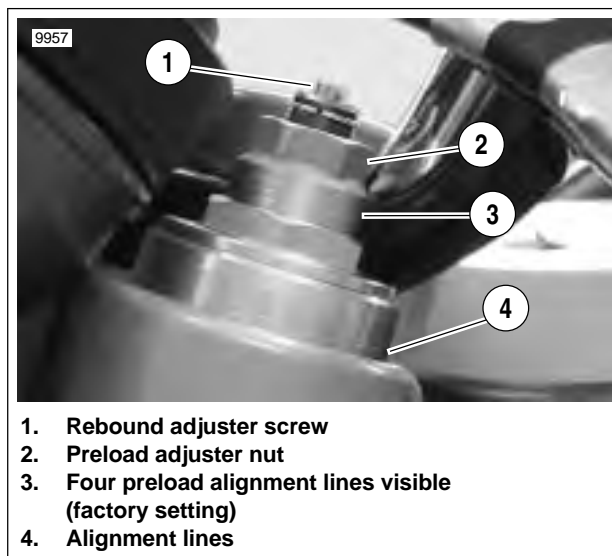

Figure 2-74. Front Fork Preload And Rebound Adjuster
4. See Figure 2-74. Position fork with alignment lines (4) visible and reflector facing to the side and tighten the lower fork clamp.
9. See Figure 2-74. Position both forks with same number alignment lines (4) visible and reflectors facing to the sides. Do not tighten.